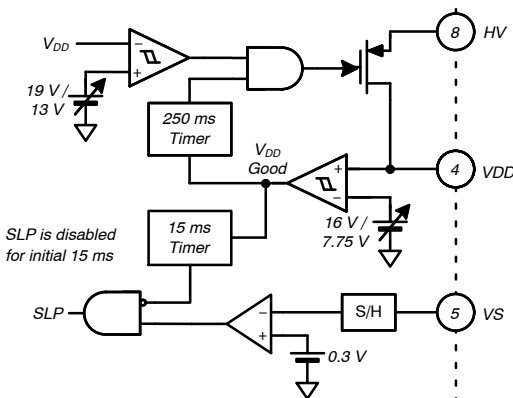
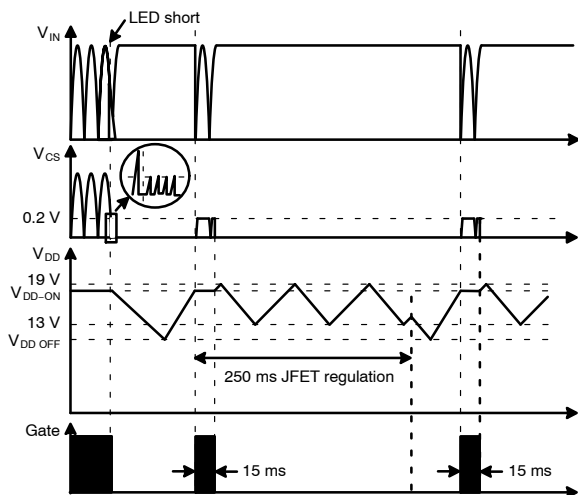

Figure 22. Internal SLP Block
Figure 23. Waveforms in Short-LED Condition
In case of a short-LED condition, the secondary diode is stressed by high current. When V_S voltage is lower than 0.3 V due to a short-LED condition, the cycle-by-cycle current limit level changes to 0.2 V from 1.0 V and SLP is triggered if the V_S voltage is less than 0.3 V for four (4) consecutive switching cycles. Figure 22 and Figure 23 show the SLP block and operational waveforms during LED-short condition. To set enough auto-restart time for system safety under protection conditions, V_{DD} is maintained between 13 V and 19 V, which is higher than UVLO, for 250 ms after V_{DD-ON} . SLP is disabled for an initial 15 ms to ensure successful startup in normal LED condition.